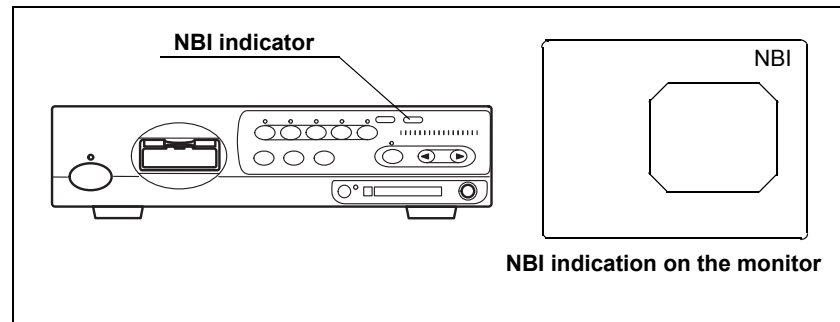

Figure 5.103
2. Confirm that the NBI indicator on the front panel of the video system center turns from green to white (see Figure 5.103).